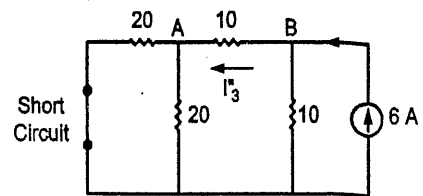

FIG. 1.100 : CIRCUIT WITH 6 A SOURCE
- So 15 V source is replaced by short circuit. Hence the circuit will be reduced to that shown in Fig. 1.100.